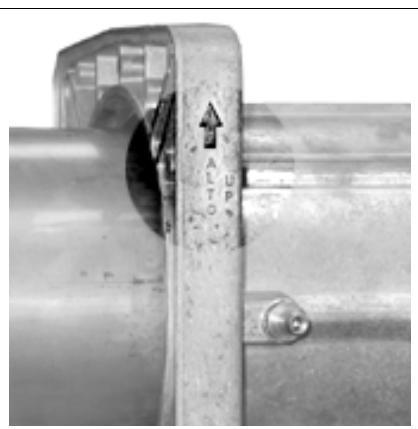

Fig. 9
- 5 Assemble the whole piece to the burner, paying attention to the indication in picture Fig. 9.